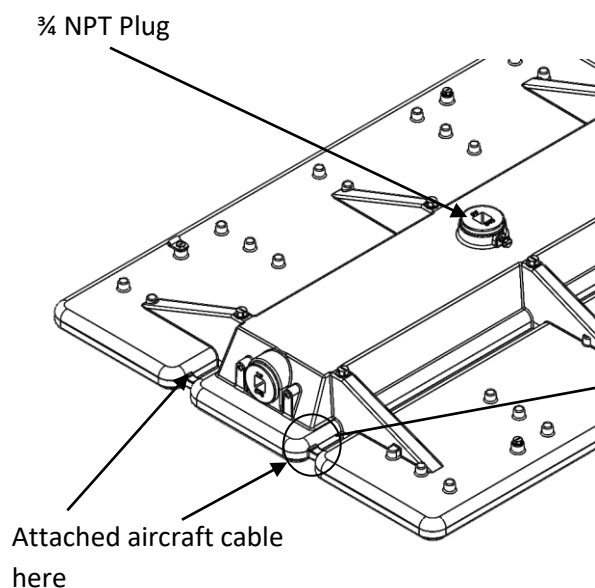

Figure C.1: Suspended Mounting Option
- 1) If using the IBAC120 M100 or IBAC240 M75, hook the latch around the suspended mounting feature on driver channel housing as shown in figure C.1, C.2 , and C.3 (inverted mounting options connects the same way as suspended) below.